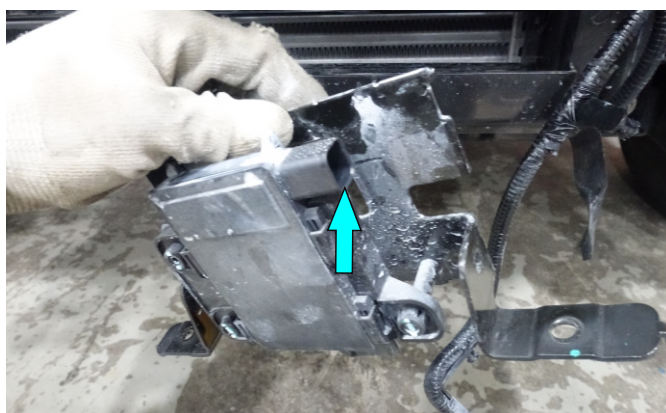

Fig.17
16. Remove the radar cover, unplug an electronic connector (fig.17).